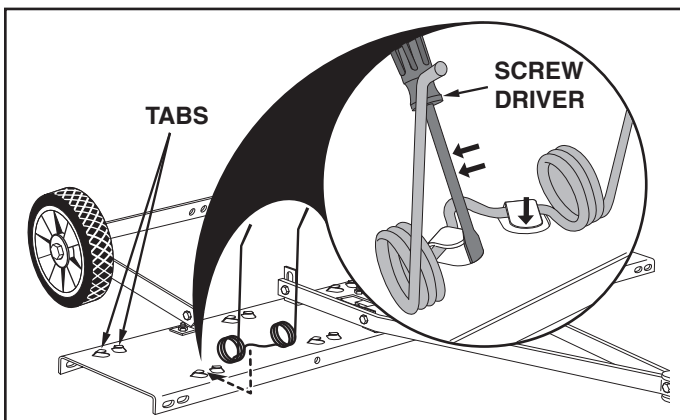

FIGURE 7
13. Starting with the front row of tabs, slide a spring tine under a set of tabs. Insert a screw driver or punch down into the tray and bend each tab until the end of the tab is bent down even with the surface of the tray. Repeat to attach all spring tines. See figure 7.